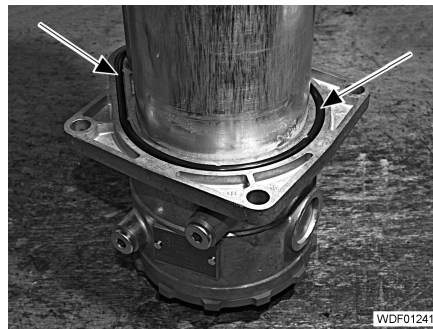

Fig. 260 Sealing
- Apply sealant along the O-ring (Fig. 260).